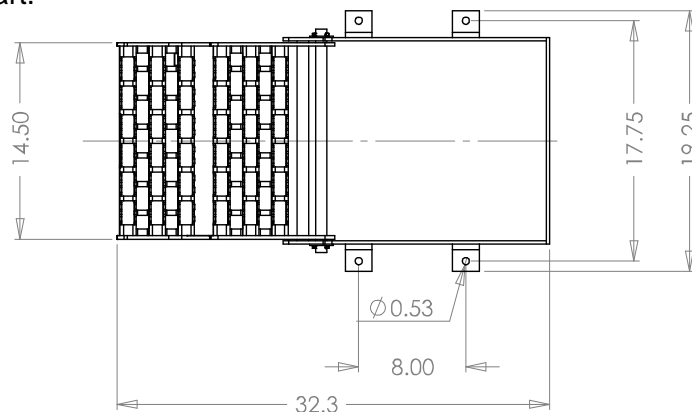

Fig. 1
- b.) You'll also need 19-1/4" of width clearance and 13-1/2" of height clearance. See figure 1 & 3
- c.) On the angle or cross members mark your bolt or weld location by using the dimensions in figures 1, 2 & 3. The bolt locations are 8" center to center and 17-3/4" apart.